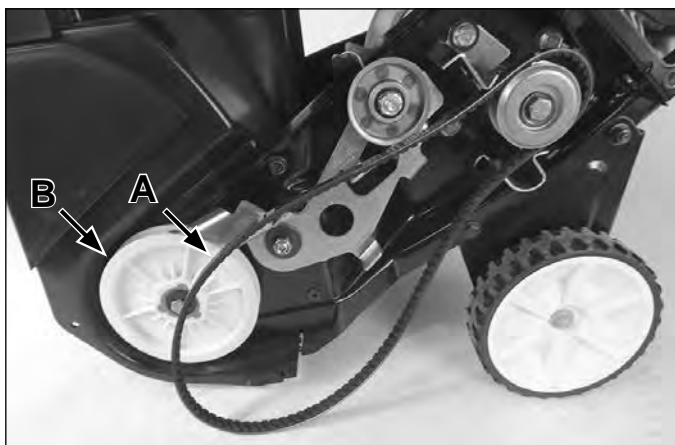

Fig. 005
1. Remove the belt cover. Remove the drive belt (A) and the rotor pulley (B) (Fig. 005).